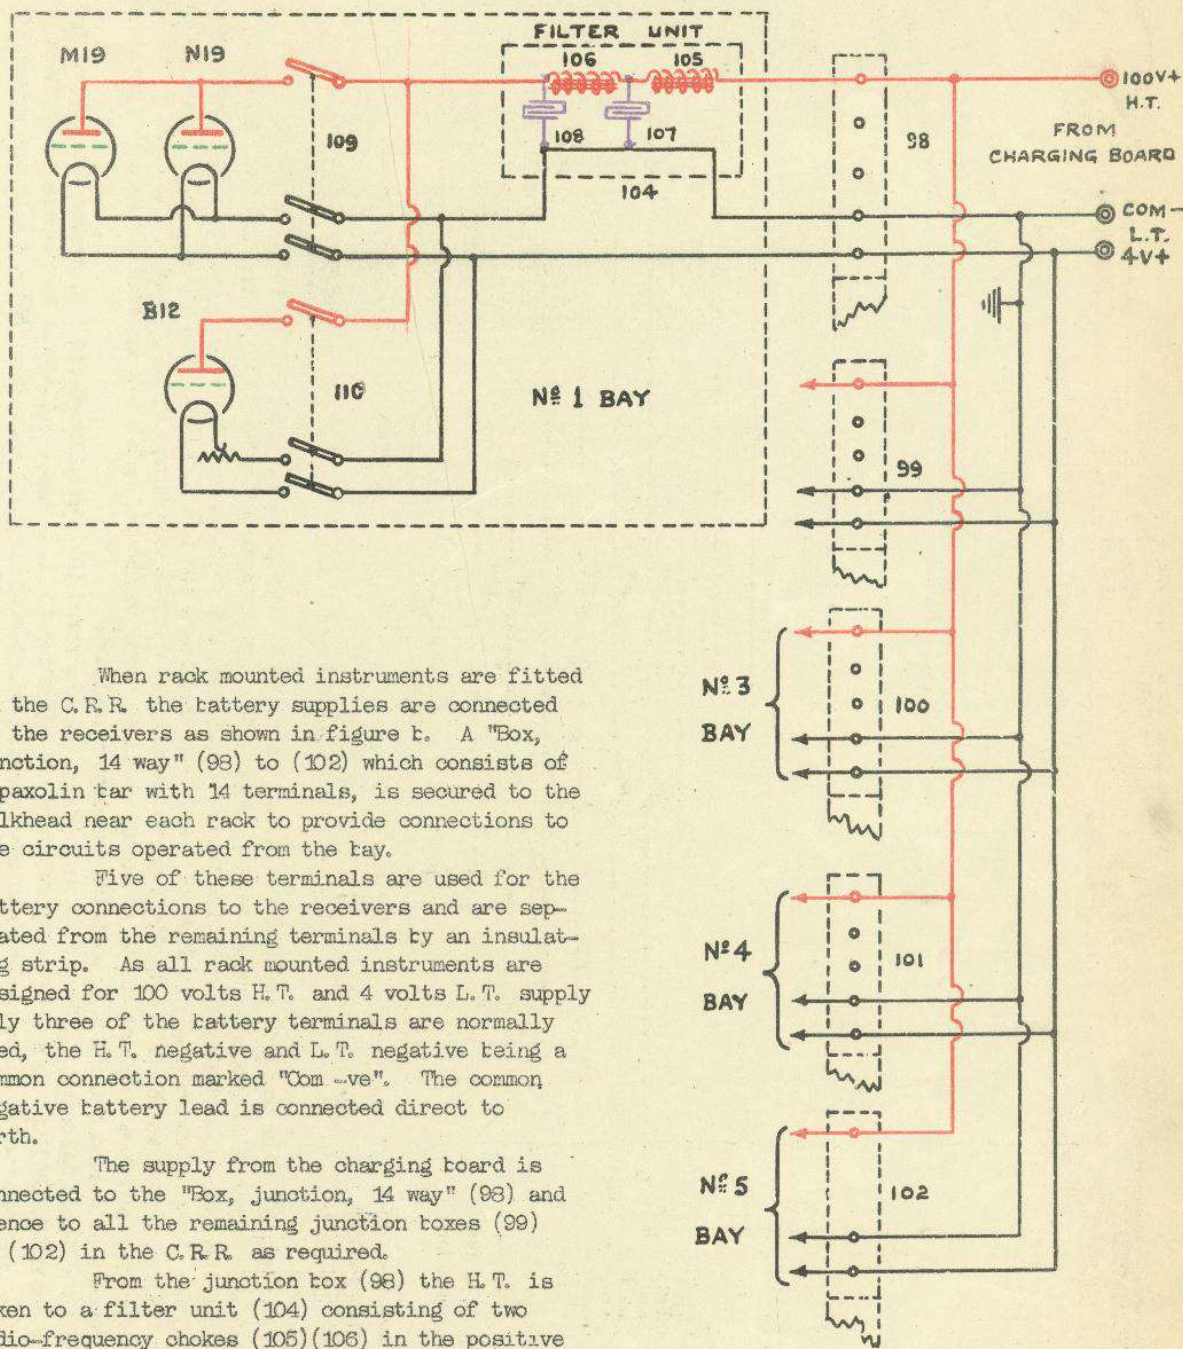

FIG. 6.
When rack mounted instruments are fitted in the C.R.R. the battery supplies are connected to the receivers as shown in figure 6. A "Box, junction, 14 way" (98) to (102) which consists of a paxolin bar with 14 terminals, is secured to the bulkhead near each rack to provide connections to the circuits operated from the bay.